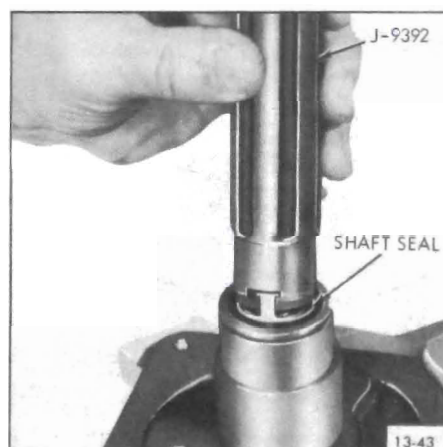

Figure 13-66 Removing or Installing Shaft Seal
8. Remove the seal assembly, using Tool J-9392. Press tool downward on seal while twisting it clockwise to engage the tabs of the seal assembly. Gently but firmly, pull tool straight out (see Figure 13-66).